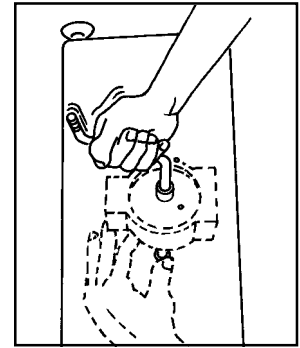

Figure 3.
1. Remove the hopper. The hopper is held in place by a screw (5) and nut (6) on both sides of the upper of hopper.
2. Remove the round black knob (21) on the handle. Unthread it, twisting counterclockwise.
3. Remove the bottom screw (9) on the side plate (don't lose the arm stop (7) that it screws into). Also, on the side plate (8), remove the top screw and the other stop (7) that it is threaded into. Take off the side plate.
4. The next step is to remove the drum and shaft assembly (10). To do this, lay the unit on it's side with the handle pointing up. Grab the handle (20) with your right hand. Reach inside the MCD-7 and push against the opposite wall with the flat of your left hand while with your right hand you pull up on the handle (figure 3.). The walls are flexible enough so that with a little tugging you can dislodge the shaft from the hole in the left side of the wall.